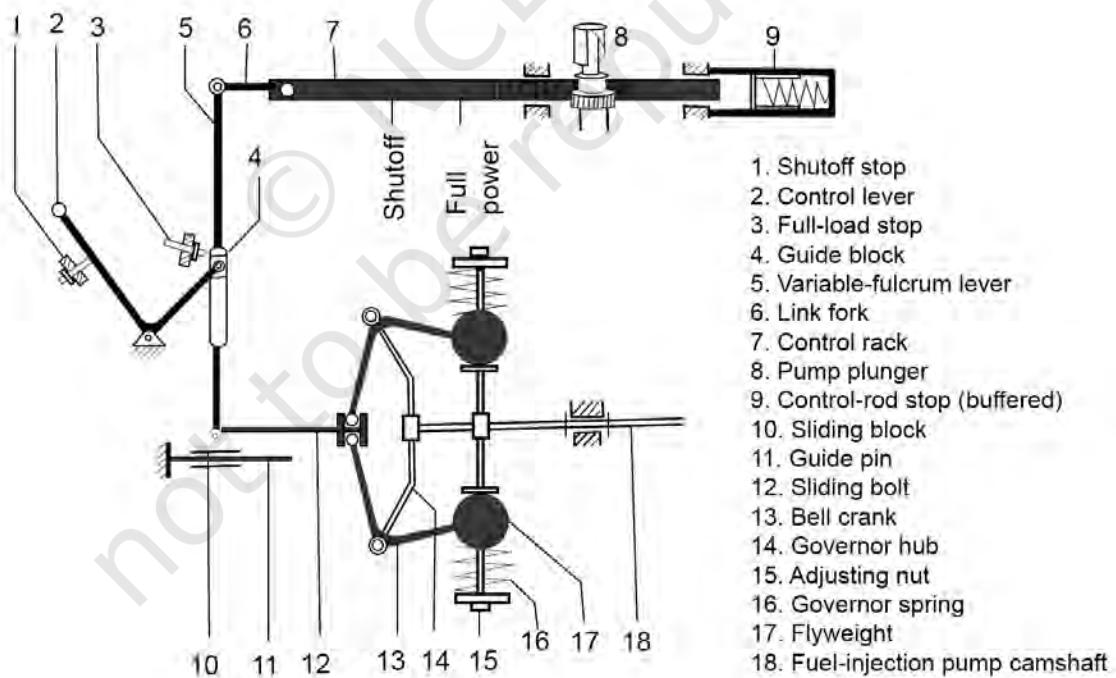

Fig. 3.16: Governor
19. Governor: It is run by drive from the crankshaft. The function of the governor (Fig. 3.16) is to regulate the charge in case of petrol engine and